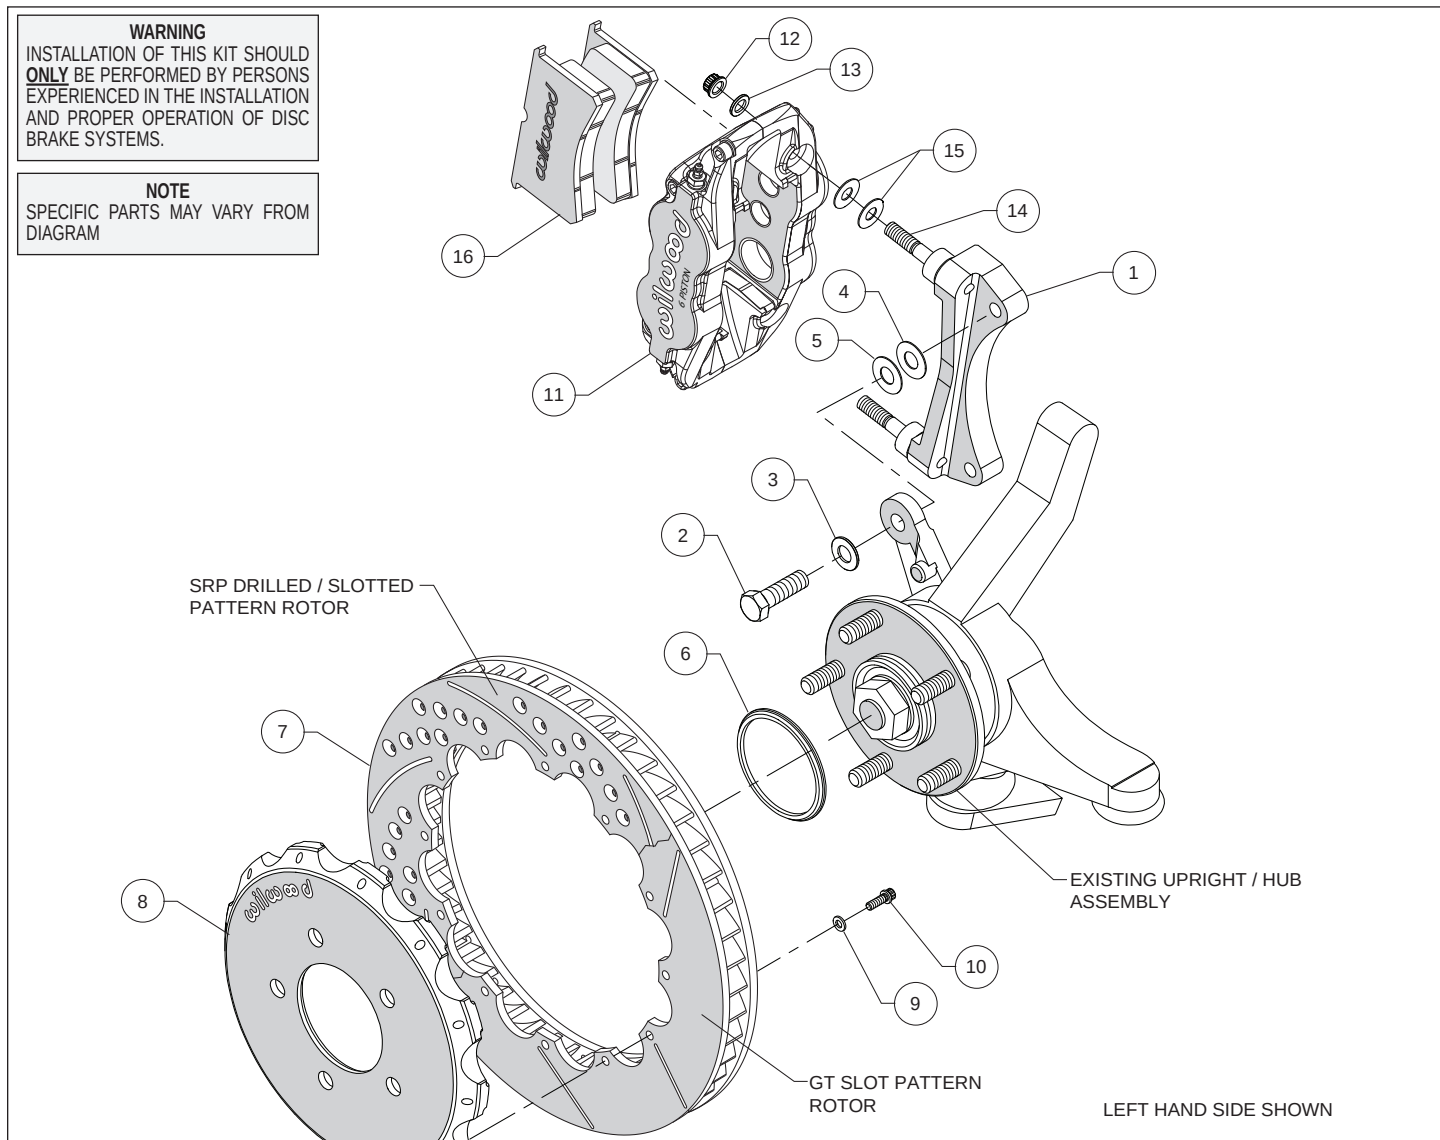
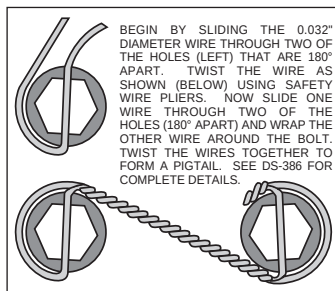

Figure 1. Typical Installation Configuration
Figure 3. Safety Wire Diagram
Assembly Instructions (numbers in parenthesis refer to the parts list and Figure 1 on the preceding pages):
- The caliper mount bracket (1) should initially be installed with clean, dry threads on the mounting bolts. Orient the bracket as shown in Figure 1 and Photo 1, and install using mounting bolts (2) and washers (3). Initially place one each .033" thick shim (4), and .015" thick shim (5) on each bolt between the bracket and upright, Figure 1. Temporarily tighten the mounting bolts.
- Orient the rotor (7) and the hat (8) as shown in Figure 1 and Photo 2. Attach rotor to hat using bolts (10) and washers (9). Using an alternating sequence, apply red *Loctite*® 271 to the threads and torque bolts to 155 in-lb. For an added measure of security, the bolts may be safety wired using standard 0.032 inch diameter stainless steel safety wire as shown in Figure 3. Please refer to Wilwood's data sheet DS-386 (available at www.wilwood.com/Pdf/DataSheets/ds386.pdf) for complete safety wire installation instructions.
- Slide the rotor registration adapter (6) onto the axle register on the axle hub with the smaller O.D. facing outward, Photo 3. Slide the hat/rotor assembly onto the axle hub. **NOTE:** The hat must fit flush against the axle hub flange or excessive rotor run out may result. Install three lug nuts (finger tight) to keep the hat/rotor assembly in place while continuing with the installation.
- NOTE:** This kit contains distinct right and left hand calipers that must be mounted in a specific direction, as described below. Lubricate the caliper mounting studs (14) with lightweight oil. Initially place two .035" thick shims (15) on each stud as shown in Figure 1 and Photo 4. Mount the caliper (11) onto the bracket (1) using lock nuts (12) and washers (13), Figure 1 and Photo 5. Ensure that the caliper is mounted so that the largest pistons are at the rotor exit end of the caliper, in relation to the direction of rotor rotation. Temporarily tighten the lock nuts and view the rotor through the top opening of the caliper. The rotor should be centered in the caliper, Photo 6. If not, adjust by adding or subtracting shims (4 and/or 5) between the bracket and the upright. Always use the same amount of shims on each of the two mounting bolts. Once the caliper alignment is correct, remove the bracket mounting bolts one at a time, apply red *Loctite*® 271 to the threads, and torque to 60 ft-lb.